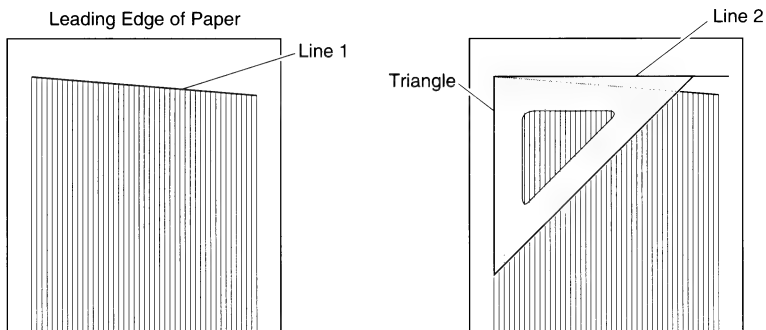

Figure 11 Tracing the Service Test Page
3. Using a straight edge, draw a line across the top of each vertical line on the service test page. Place a triangle against the first vertical line on the service test page and trace its top edge, as shown in Figure 11.